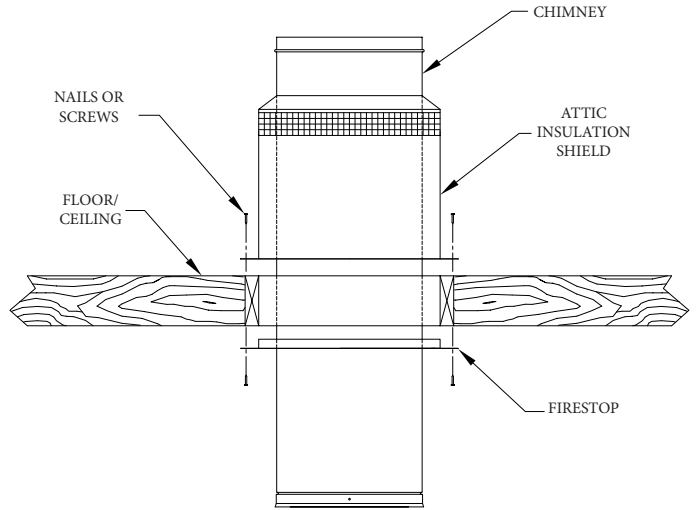

FIGURE 68
- Secure the Attic Insulation Shield to the top of the framed opening using nails or screws. See **Figure 68**
Attach the elbow to the chimney pipe, support or other part. Using the offset chart, add chimney sections between elbows. A Support Band or plumbers strap is required for every 4 foot interval between elbows to support the load. **(Figure 68)** Attach the upper elbow to bring the chimney back to vertical. See **TABLE 2** and **(Figure 69)** for offset combinations. 2 offsets (4 elbows) maximum.